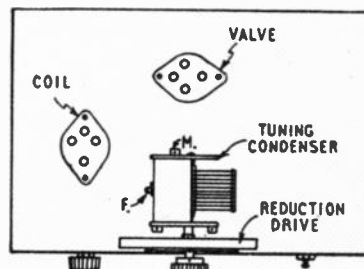

Fig. 3—Top of chassis
With the metal type, clearance holes for the valveholders and socket strips must be large enough, to prevent short-circuits. The components are fitted as shown in Figs. 3 and 4. In Fig. 3, (M)